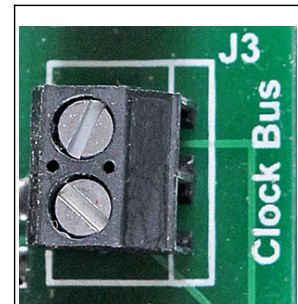

Fig. 24: Clock bus connector.
- ☐ Turn off the power. Connect the two wires from a modified clock movement to the two screw terminals on J3 (Fig. 24). It doesn't matter which wire connects to which screw.